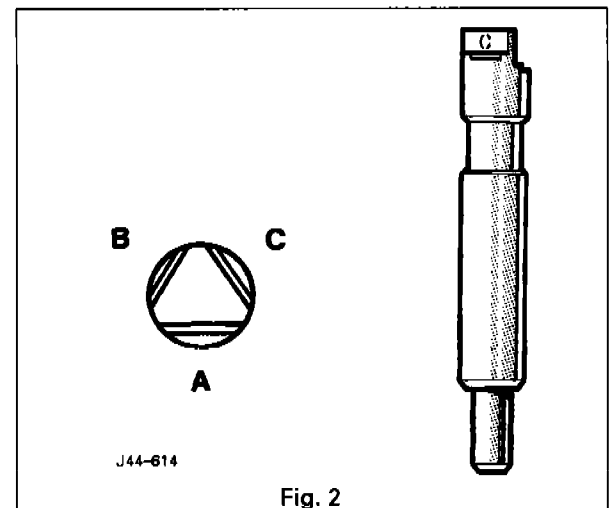

Fig. 2
- Fit stepped gauge pin JD 193 (Fig. 2) to rear servobore.